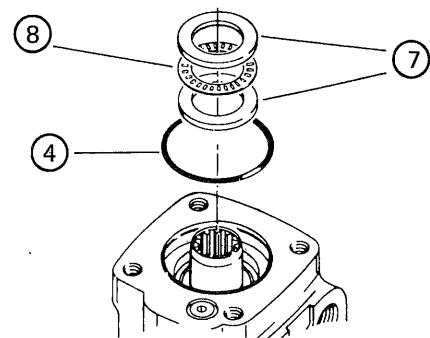

Fig. 142
- (12) Place housing on clean work bench and install 7.2 mm diameter O-rings (4) in housing (Fig. 142).
- (13) Install two bearing races (7) and thrust needle (8) (Fig. 142).